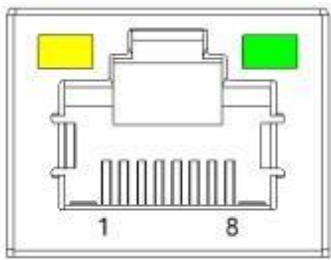

Fig 7-18 Northbound port
**Step 1:** Connect the network port of Controller to the network port of the PC through the network cable shown in Fig 7-18.